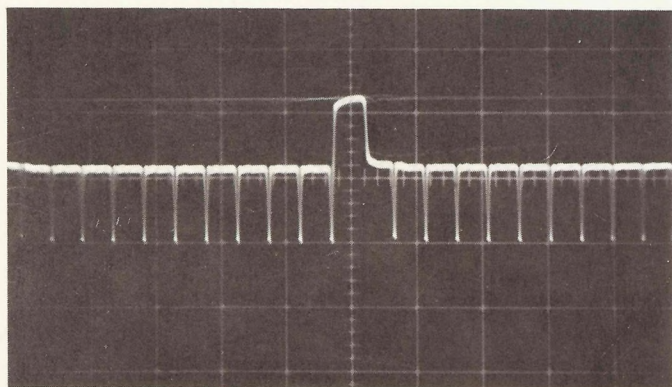

Fig. 2. Measuring peak-to-peak voltages.
4. Multiply the distance measured by the setting of the PPV PER DIV switch. The result is the voltage between the two points measured. In the composite video waveform shown in Fig. 2, the total distance from the tip of the sync pulse to the most negative point is 2.2 divisions. The setting of the PPV PER DIV switch is 1 VOLT/DIV, so the total peak to peak amplitude of the signal is 2.2VP-P. The distance from the tip of the sync pulse to the blanking level is 1 division so the amplitude of the sync pulse is 1V.